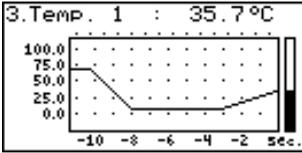

Fig. 6.5. "graph" mode
- "**Graph**" mode (Fig. 6.5) enables the momentary values or averaged values of measurements conducted for one of measurement channels to be viewed in the form of a graph.